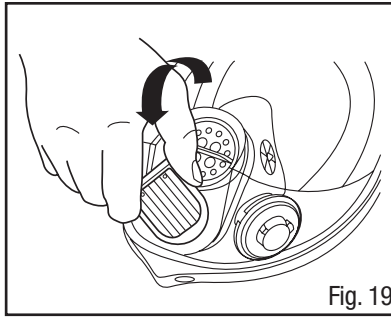

Fig. 19
2. Remove exhalation valve assembly by turning counter clockwise 1/4 turn (Fig. 19).
3. Remove exhalation valve assembly by turning counter-clockwise 1/4 turn and withdrawing from lens center port (Fig. 19).